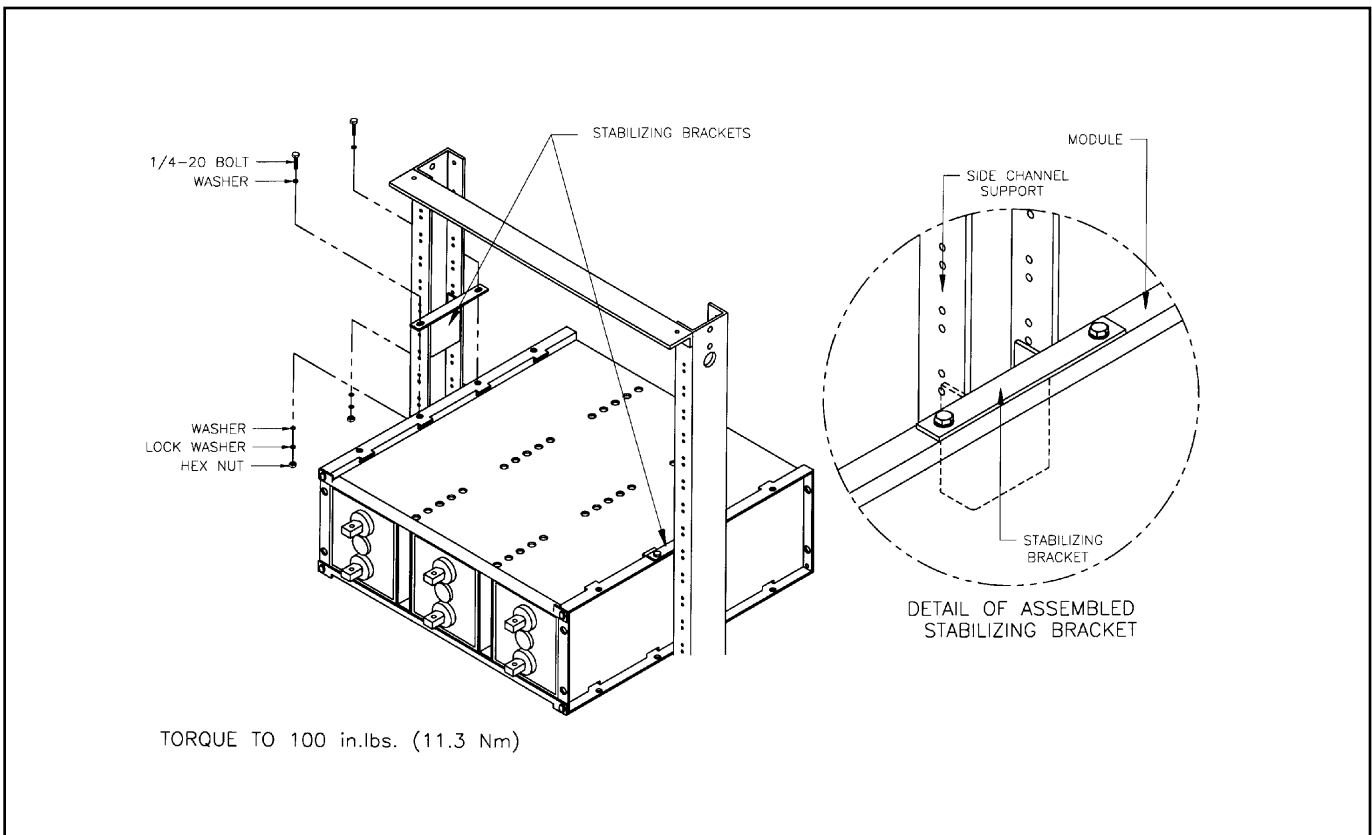

Fig. 31
5. Insert the stabilizing bracket and bolt it to the top module. (See Fig.31, pg 17, for instructions.)